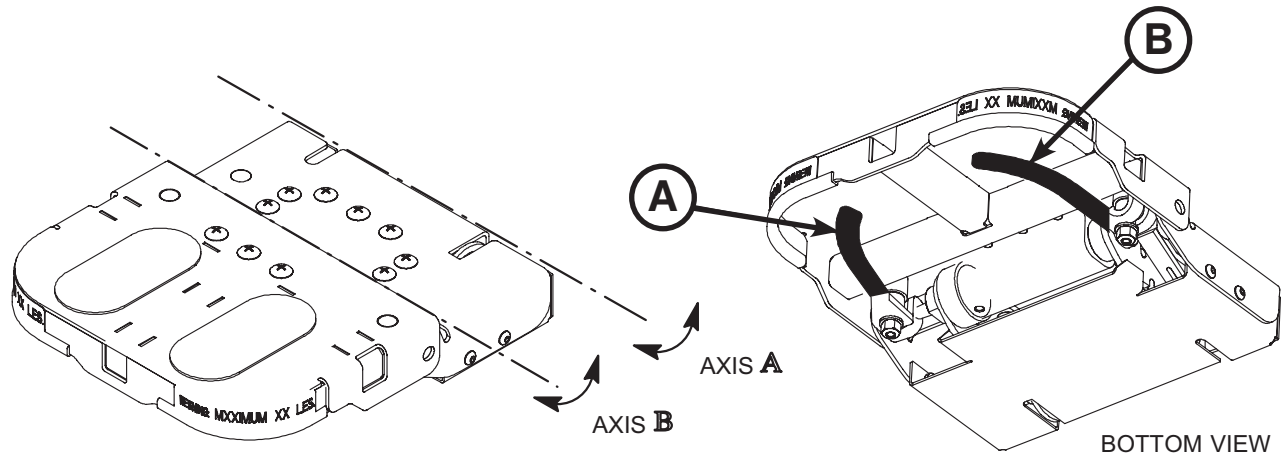

Figure 8: Head Piece
- Handle (A) releases one latch and rotates the head piece on axis "A" as shown in Figure 8.
- Handle (B) releases the other latch and rotates the head section on axis "B" as shown in Figure 8.